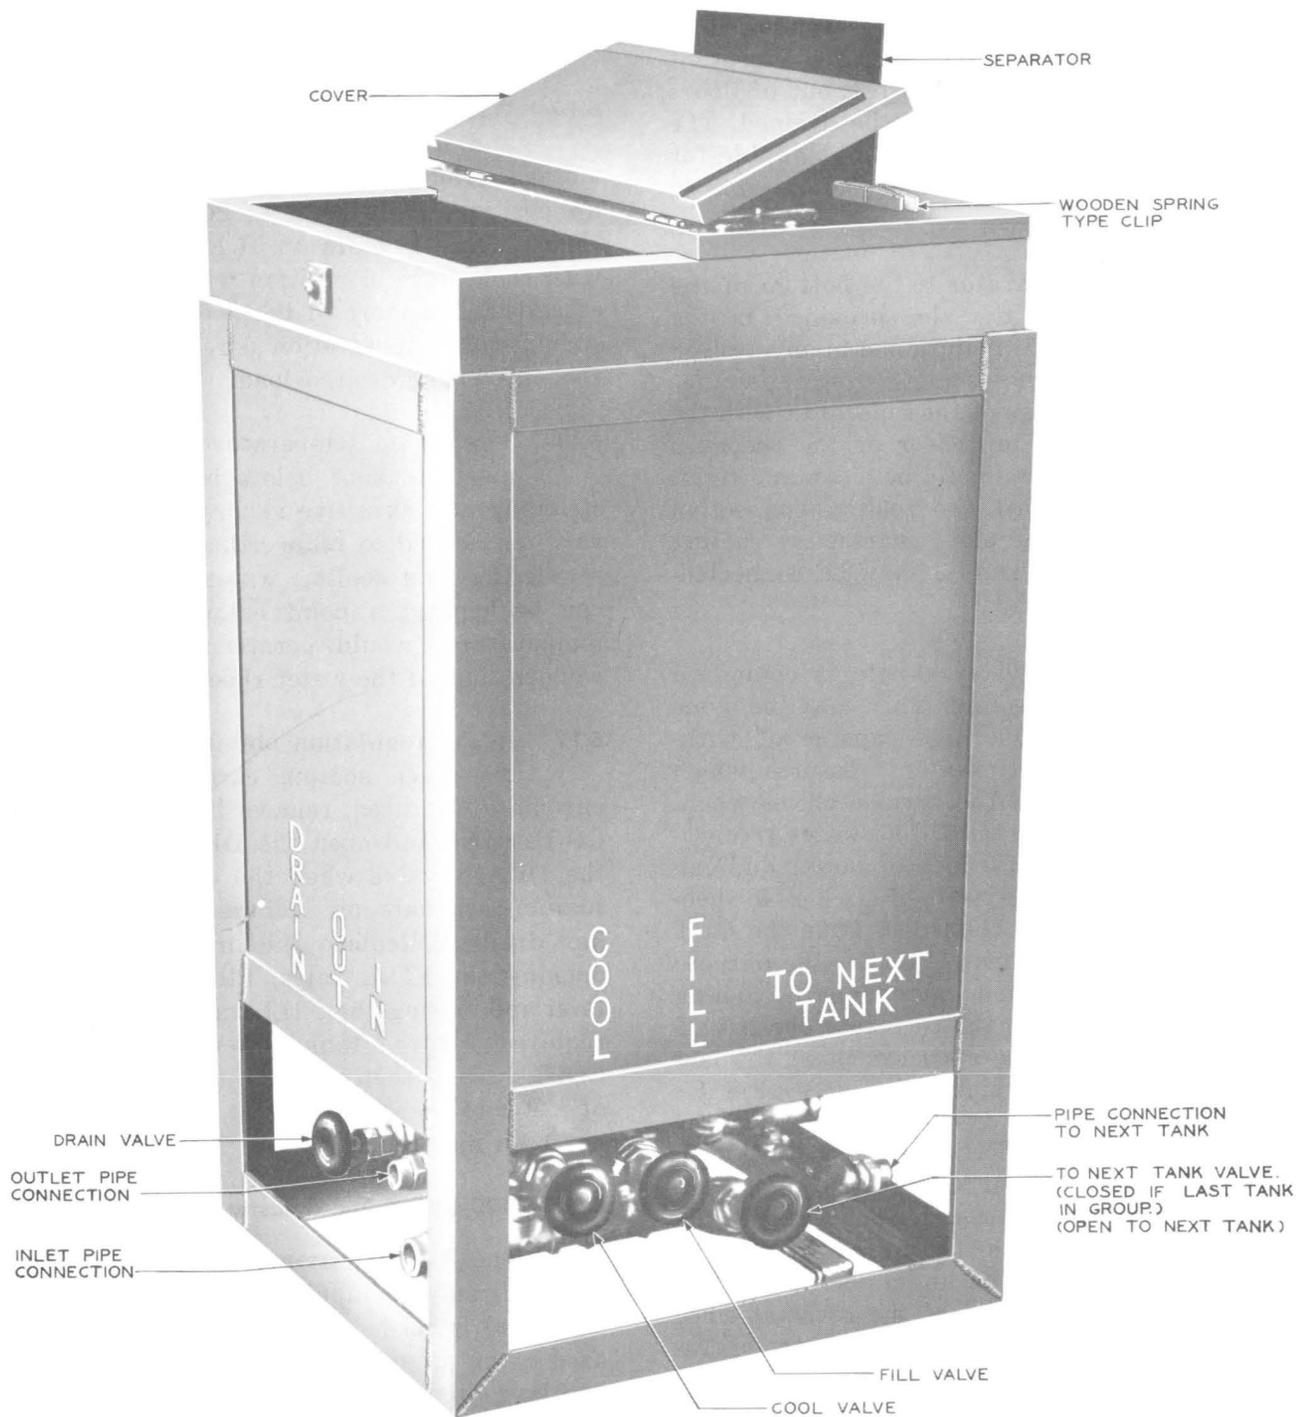

Fig. 14 - R-2746 30-KW Water Rheostat
6.06 The R-2746 30-kw water rheostat, see Fig. 14, employs a cooling coil mounted in the solution. The main tank is composed of wood; careful operation and filling will prevent any undue leaks. If it is to be left out of doors in low temperatures, it should be drained. The location of the rheostat should be suitable for easy draining of the tank and cooling coils to prevent freezing.